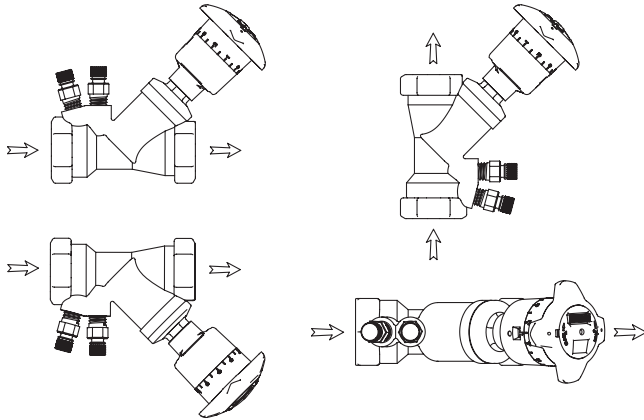

FIG. 2
- 5 CBV's may be installed in horizontal or vertical piping (as illustrated in **FIG. 2**). Provisions must be made for easy access to the probe metering ports (PMP's), reading scale, and memory stop.